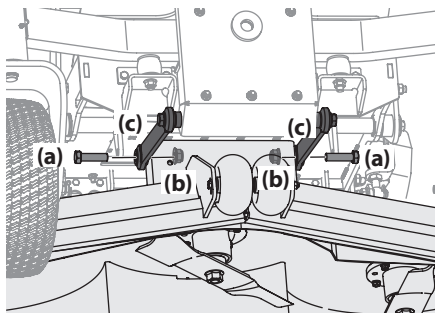

Figure 43
- Remove the hex screws (a) and flange lock nuts (b) securing the front deck control rods (c) to the deck. See Figure 43.